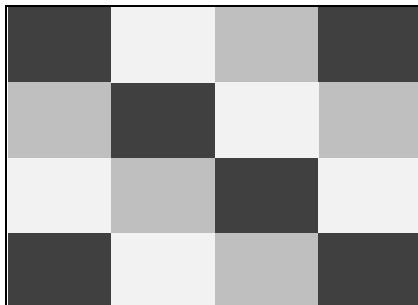

Figure 4-2. Display Test Pattern
6. Press  **CALIBRATE** . The Test Tool shows a dark display; the test pattern as shown in Figure 4-2 may be not visible or hardly visible.
The Test Tool shows the display test pattern shown in Figure 4-2, at default contrast. Observe the display closely, and verify that the display shows no abnormalities. Also verify that the contrast of the upper left and upper right square of the test pattern is equal.
The Test Tool shows a light display; the test pattern as shown in Figure 4-2 may not be visible or hardly visible.